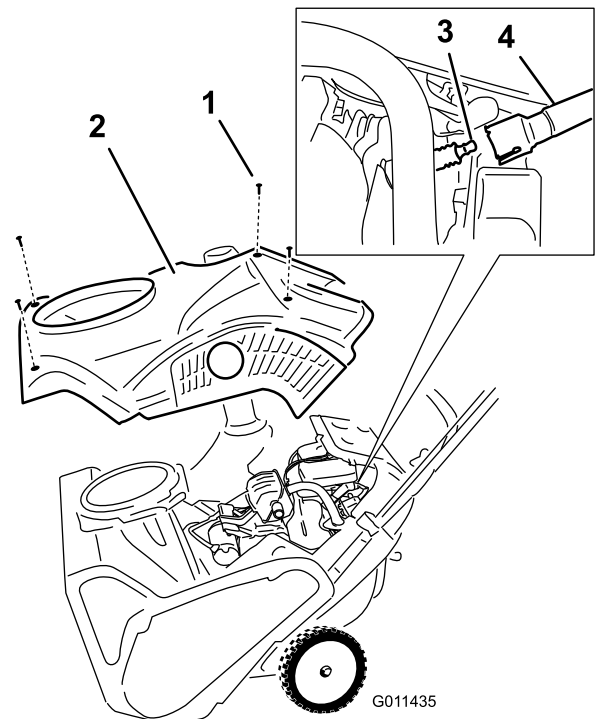

Figure 26
4. Remove the 4 screws that secure the shroud (Figure 26).
6. Remove the shroud (Figure 26).